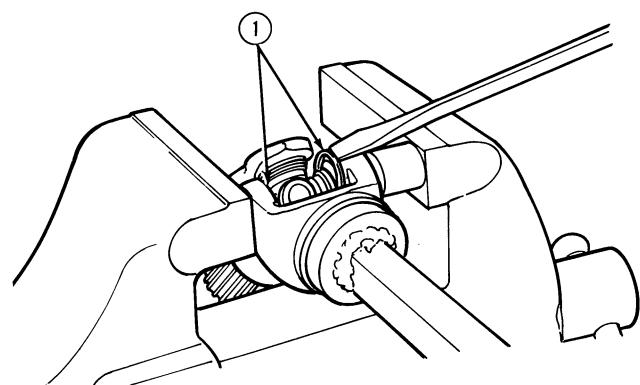

Figure 6
- Remove the snap rings (1), Figure 6, that hold the bearing cups in the yoke. The snap rings may be inside the yoke (as shown) or on the outside depending on the supplier.